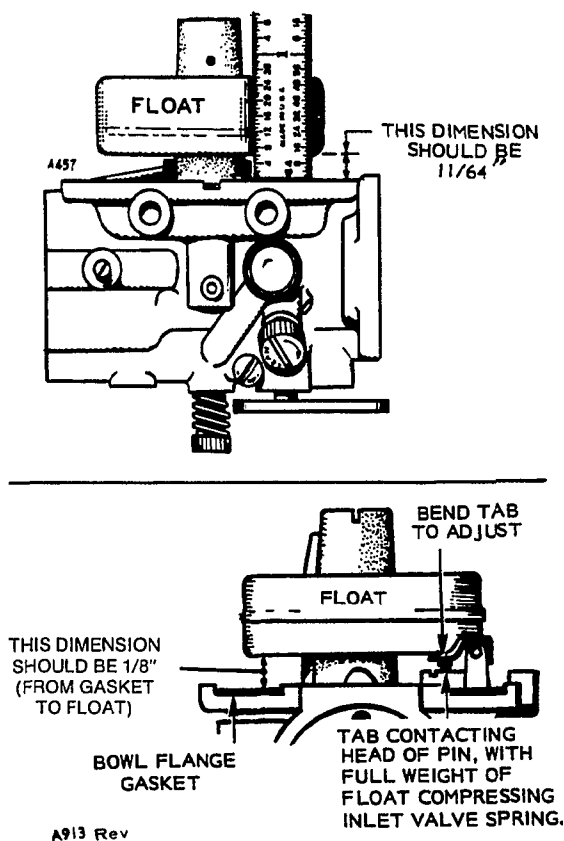

FIGURE 25. SETTING FLOAT LEVEL
Check adjusting needles and nozzle for damage. If float is loaded with fuel or damaged, replace it. Float should fit freely on its pin without binding. Invert carburetor body and measure float level (Figure 25).
To check float level, remove entire main fuel adjustment assembly from float bowl. Unscrew large nut from the float bowl. Adjust float level by bending tab on the float as shown in Figure 25. With full weight of float on the spring, float-to-gasket gap should be 1/16-inch.
6. Check float level with carburetor casting inverted. Set carburetor float 11/64-inch between free end of float and carburetor body. See Figure 25.